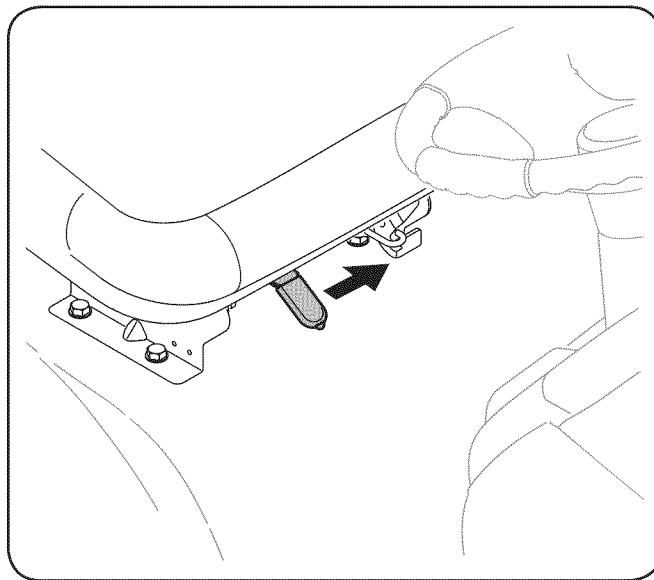

Figure 3-8
- To adjust the position of the seat on models equipped with a seat adjustment lever, move the seat adjustment lever (located under the seat) to the left and slide the seat forward or rearward. See Fig. 3-8. Make sure seat is locked into position before operating the tractor.